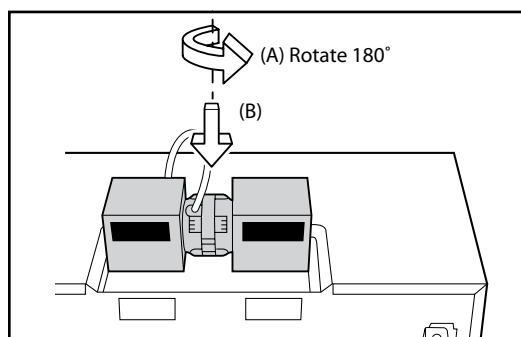

Figure 9
3. Rotate the Hood Fan Unit 180° so that the fan blade openings are facing the back of the oven. Note, you will need to lift the wire over the hood fan unit so the wire will clear. See Figure 9 (A). Replace Hood Fan Unit into the oven. Be careful not to pinch the wire and the Hood Fan Unit. See Figure 9 (B).